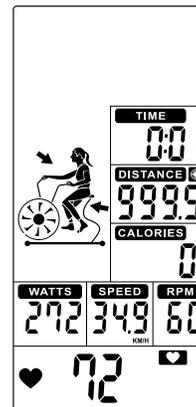

Figure 42
3. The preset **DISTANCE** value will begin counting down. During this time, **TIME, CALORIES, WATTS, SPEED, and RPM** will start counting up (see Figure 42).